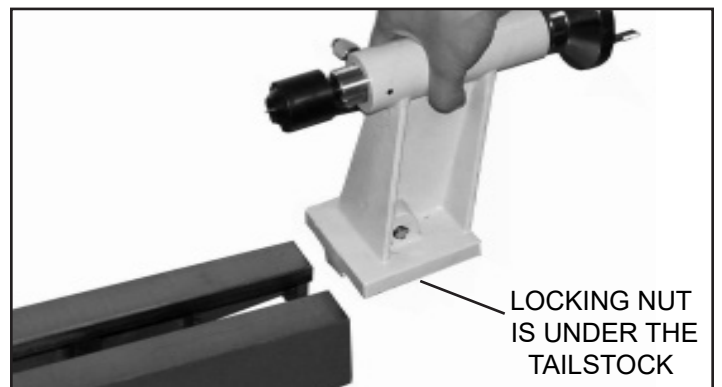

FIG. 2
2. Slide the tailstock assembly off of the end of the lathe bed. FIG. 2.